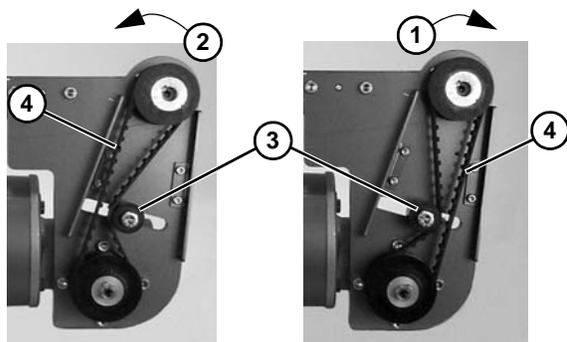
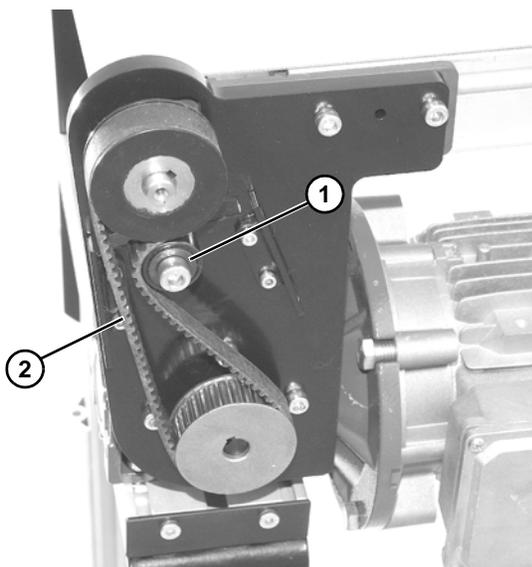

Figure 17
Figure 20
12. Depending on direction of conveyor belt travel (Figure 17, item 1) or (Figure 17, item 2), position belt tensioner (Figure 17, item 3) as shown. Tension belt to obtain 0.125" (3 mm) deflection for 1.0 lb (456 grams) of force at belt mid-point (Figure 17, item 4). Tighten tensioner screw to 103 in-lb (12 Nm).
2. Loosen tensioner (**Figure 20, item 1**).
3. Depending on direction of conveyor belt travel (**Figure 17, item 1**) or (**Figure 17, item 2**), position belt tensioner (**Figure 20, item 1**) as shown. Tension belt to obtain 0.125" (3 mm) deflection for 1.0 lb (456 grams) of force at belt mid-point (**Figure 20, item 2**). Tighten tensioner screw to 103 in-lb (12 Nm).
5. Depending on direction of conveyor belt travel (**Figure 17, item 1**) or (**Figure 17, item 2**), position belt tensioner (**Figure 20, item 1**) as shown. Tension belt to obtain 0.125" (3 mm) deflection for 1.0 lb (456 grams) of force at belt mid-point (**Figure 20, item 2**). Tighten tensioner screw to 103 in-lb (12 Nm).